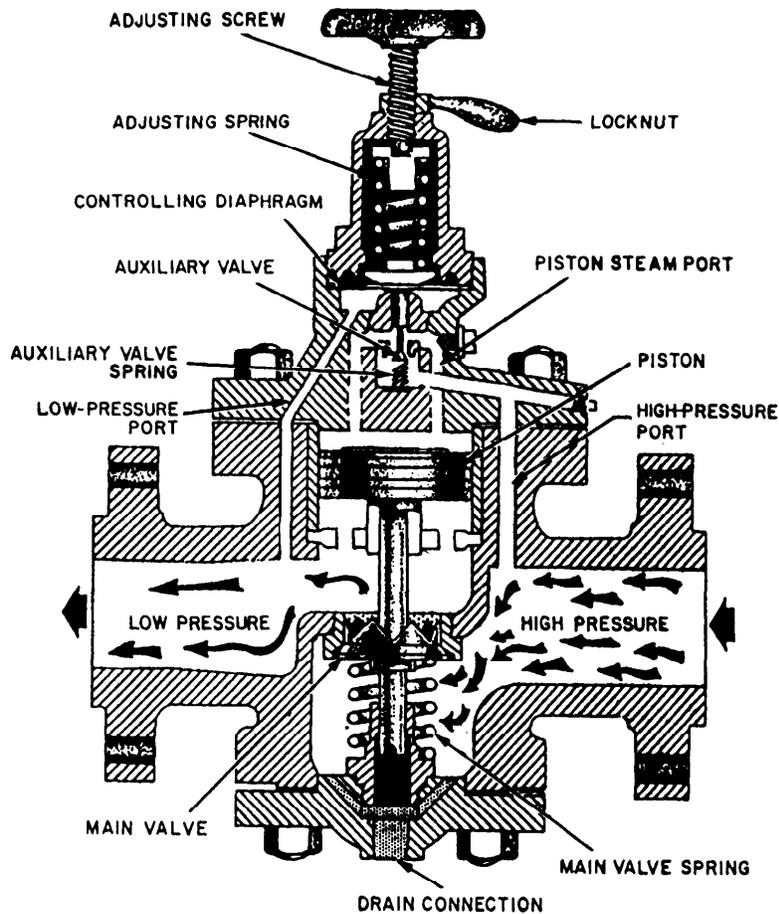

Figure 10-18.—Spring-loaded reducing valve.
Another, more complex, spring-loaded reducing valve is shown in figure 10-18. The principal parts of this spring-loaded reducing valve are (1) the main valve, an upward-seating valve which has a piston on top of its stem; (2) an upward-seating auxiliary (or controlling) valve; (3) a controlling diaphragm; and (4) an adjusting spring.